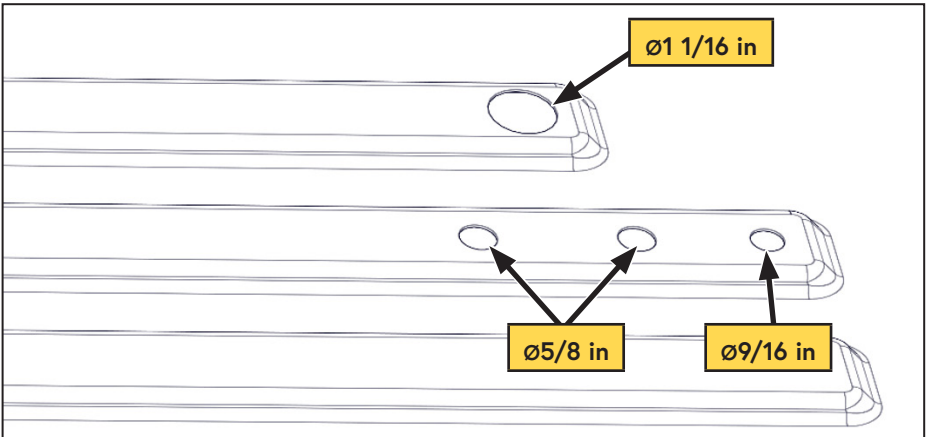
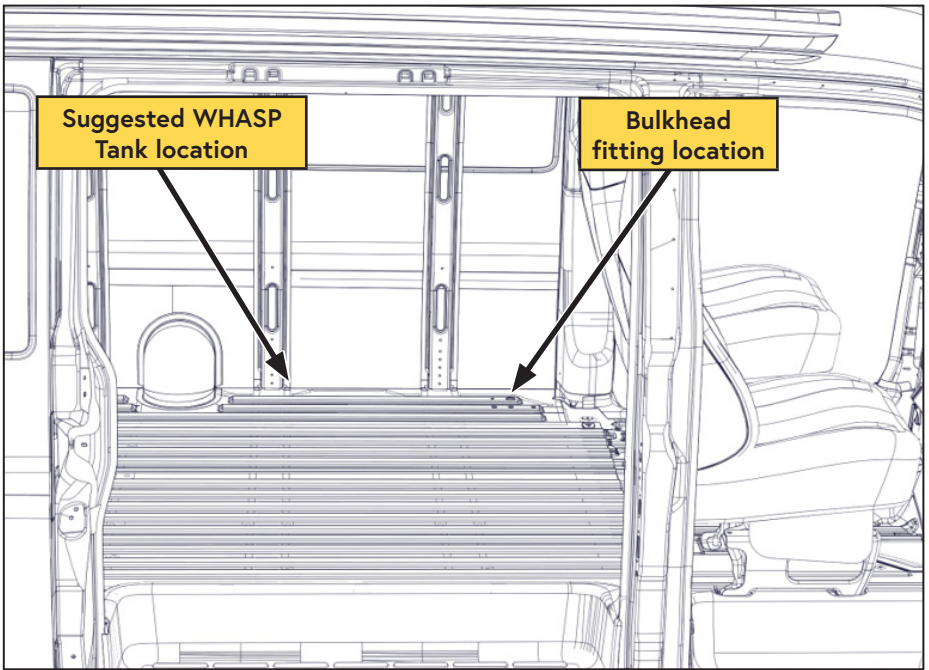
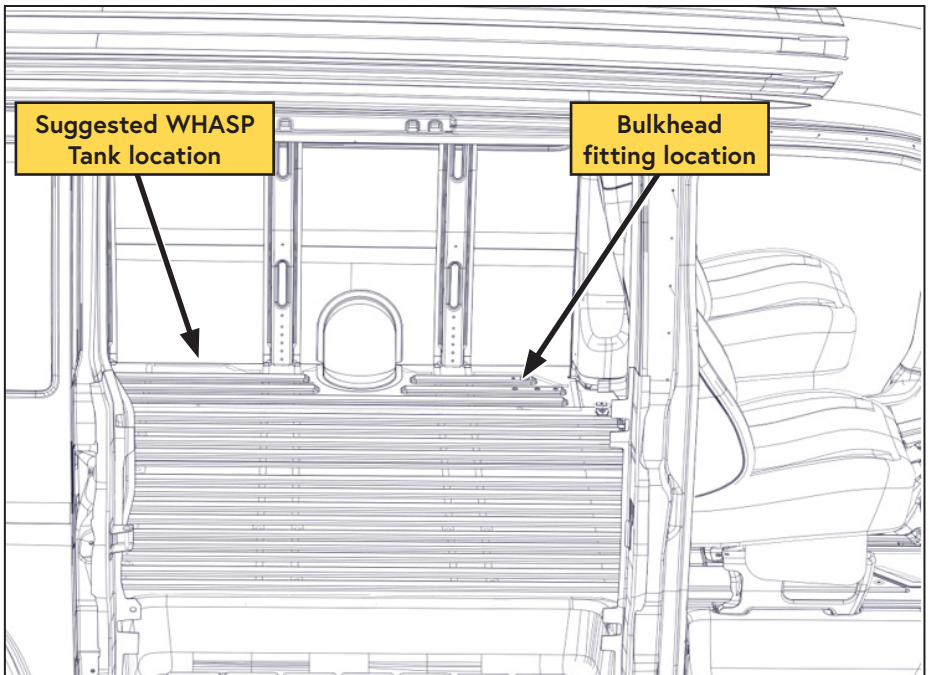

Figure 27 — Bulkhead fitting location
Figure 28 — Long wheel base
Figure 29 — Short wheel base
- Drill the bulkhead fitting holes using a drill, step drill or hole saw. Leave enough room between the fittings to allow access for a wrench (Figure 27, Figure 28, Figure 29).